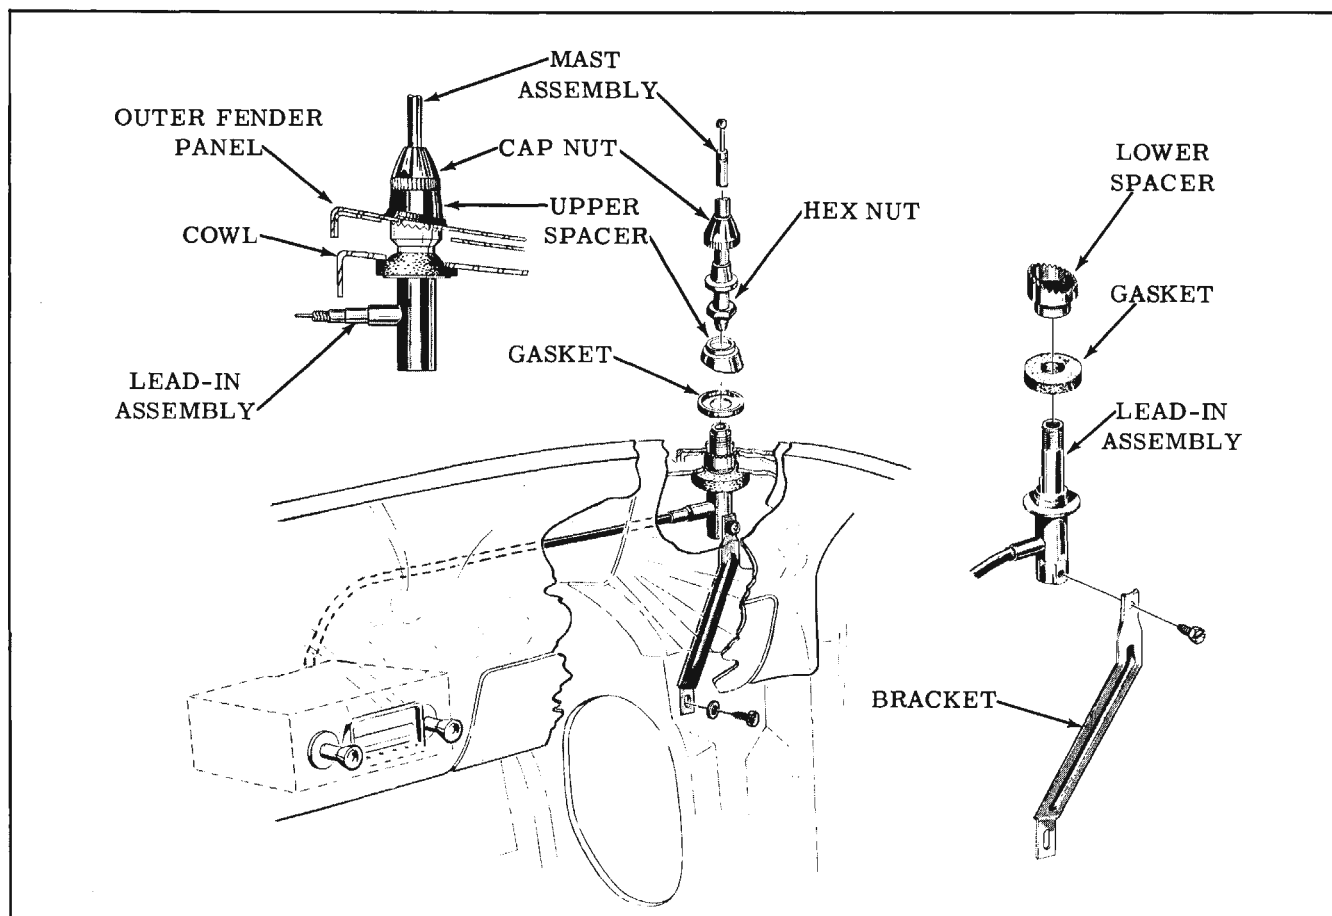

Fig. 13-136 Antenna Installation
3. Remove antenna mast, then remove attaching nut, upper spacer, and gasket. (Fig. 13-136)